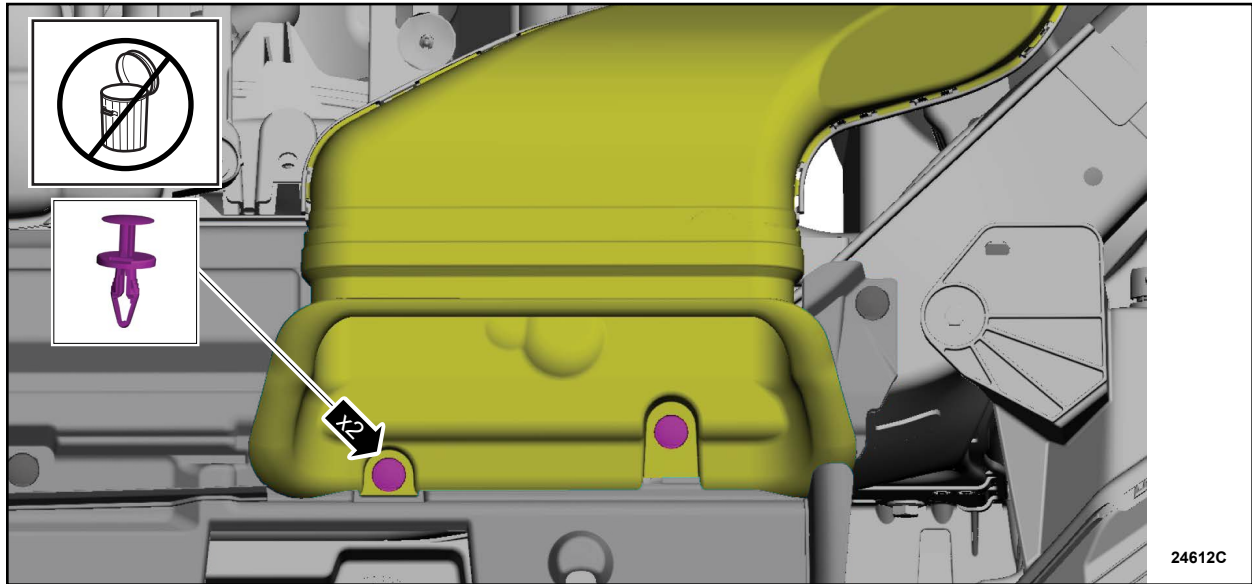

FIGURE 2
2. Remove and save the two intake retainers. Do NOT discard as they will be reused during the installation process. See Figure 2.